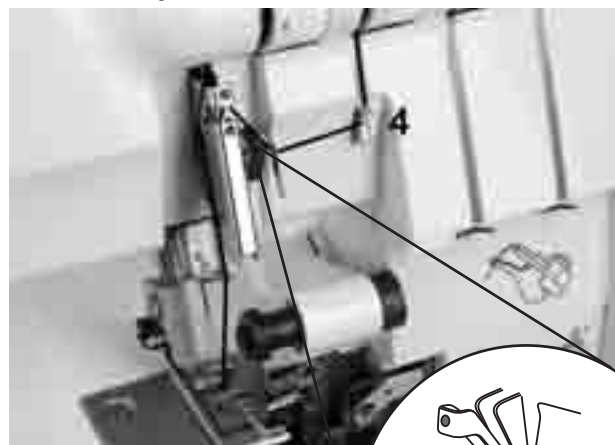

Fig. 27
4. Thread the yarn as per the green markings (4-7) (Fig. 27/28).